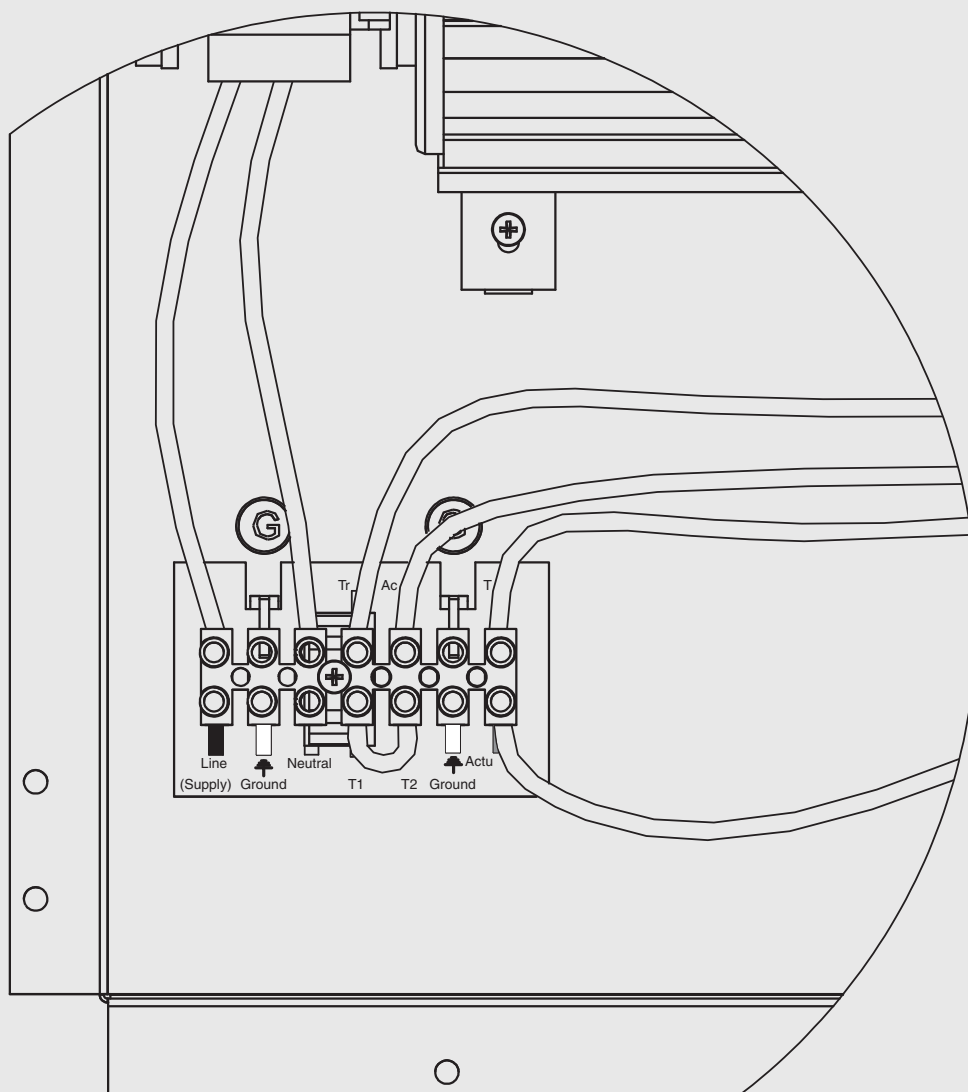

Fig. 2
- The WHISPA III® RCU fan convector is designed so that the piping and wiring connections are made within the cabinet of the unit itself. The installer should inspect the unit and note that the  $\frac{1}{2}$ " piping should enter on the lower right corner of the unit and the 110V AC wiring for the unit enters on the lower left hand corner of the unit, see Fig 2.